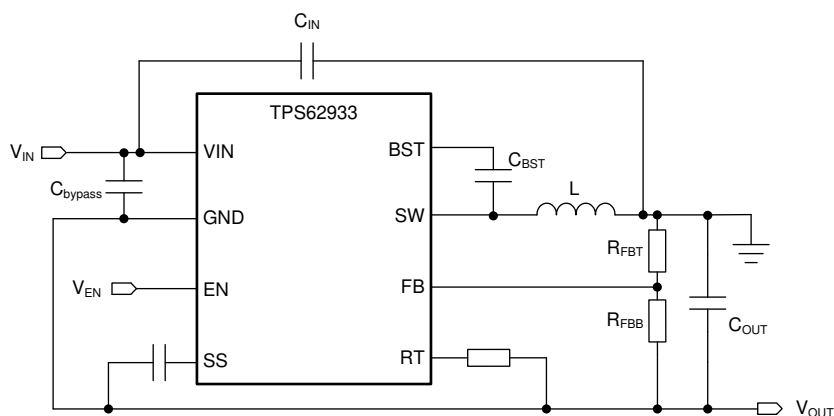
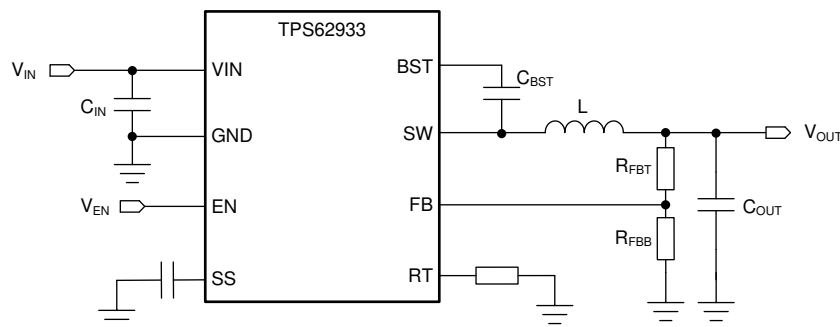

图 2-1. TIDA-050053 Block Diagram
图 2-2. Buck Converter Application
The inverting buck-boost topology is similar to the buck topology. In the buck configuration, shown in 图 2-2, the positive connection ( $V_{OUT}$ ) is connected to the inductor, and the return connection is connected to the integrated circuit (IC) ground (GND). However, in 图 2-1 illustrating the inverting buck-boost configuration, the IC GND is used as the negative output voltage pin. What was the positive output in the buck configuration is used as the GND. This inverting topology allows the output voltage to be inverted and always lower than the GND.